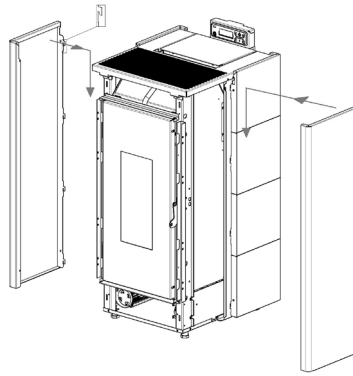

Fig. 39 - Hook the panels
- Hook the coloured panels: fit the front part between the guides on the stove, then hook back through the teeth (see **Fig. 39**).